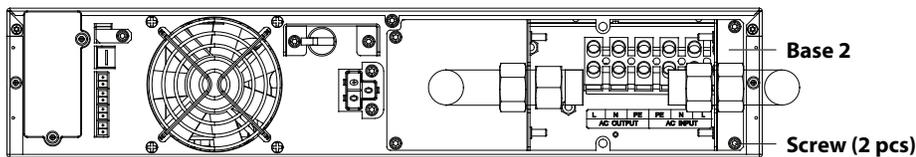

**Figure 18: I/O Cable placement**
4. Connect the input power source line, neutral and ground cables to the input line (L), neutral (N) and ground (PE) terminals on the UPS I/O terminal block and tighten the fixing screws (see Figures 18 and 19).
5. Connect the UPS output line, neutral and ground cables to the output line (L), neutral (N) and ground (PE) terminals on the UPS I/O terminal block and tighten the fixing screws (see Figures 18 and 19).